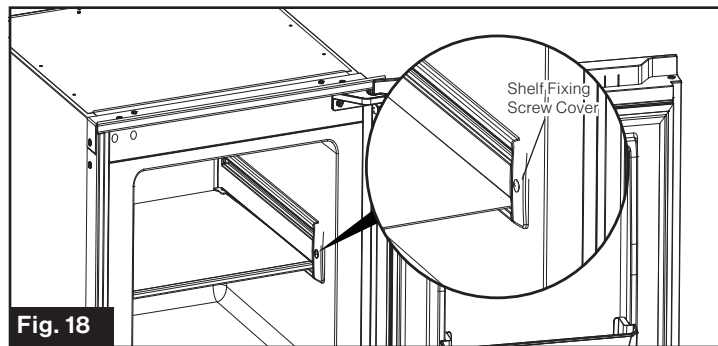

Fig. 18
2. Lever the shelf fixing screw cover using a sharp tool. (Fig. 18)